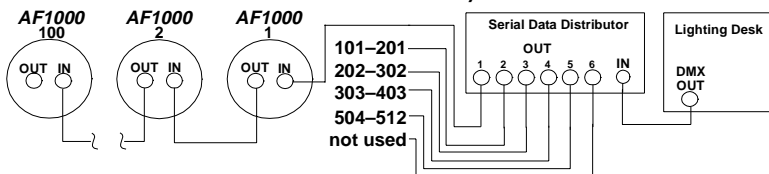

Figure 13. Daisy Chaining Fixtures
4. To daisy-chain multiple fixtures, plug an XLR cable into the DATA OUT jack on the first unit in the chain. Plug the other end of this cable into the DATA IN plug on the next unit in the series. Repeat this step with each successive unit in the chain (connect unit 2 to 3, 3 to 4, etc.) until all units are connected. If more than 100 fixtures are used, a serial data distributor is required. See Figure 13.